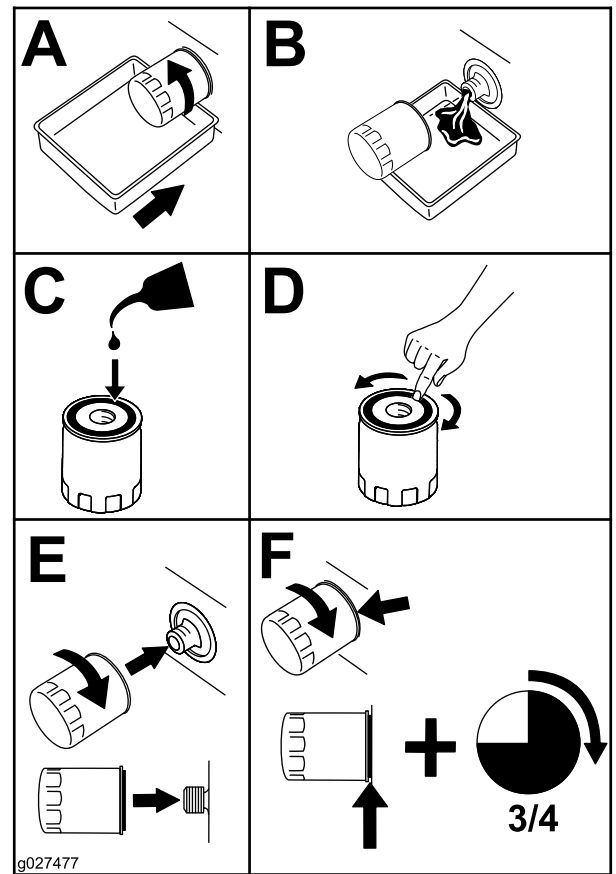

Figure 23
3. Remove the engine-oil filter (Figure 23). After the oil is drained, install a new oil filter.